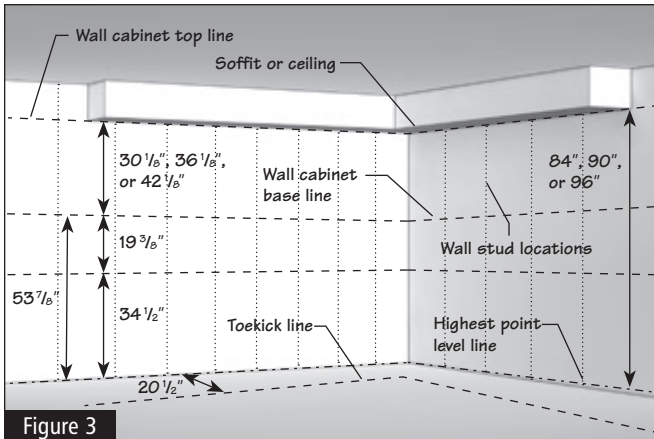

Figure 3
**1.4** Now measure up from the wall cabinet base line the same distance as the height of your cabinets ( $30\frac{1}{8}$ " ,  $36\frac{1}{8}$ " or  $42\frac{1}{8}$ "). This will be the top line for the wall cabinets. Any non-standard height wall cabinets need to line up with this top line as well. (Figure 3)